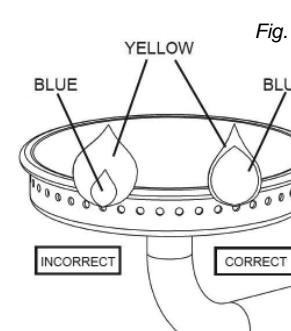

Fig. 2
- Visually check burner flame (Fig. 2). A CORRECT FLAME should be blue with a small amount of yellow at the tip. An INCORRECT FLAME is excessively yellow and irregular. If an incorrect flame occurs, turn burner control valve to OFF position, turn OFF gas cylinder valve. If an incorrect flame still occurs allow unit to cool and then clean burner. Let burner completely dry before re-lighting.